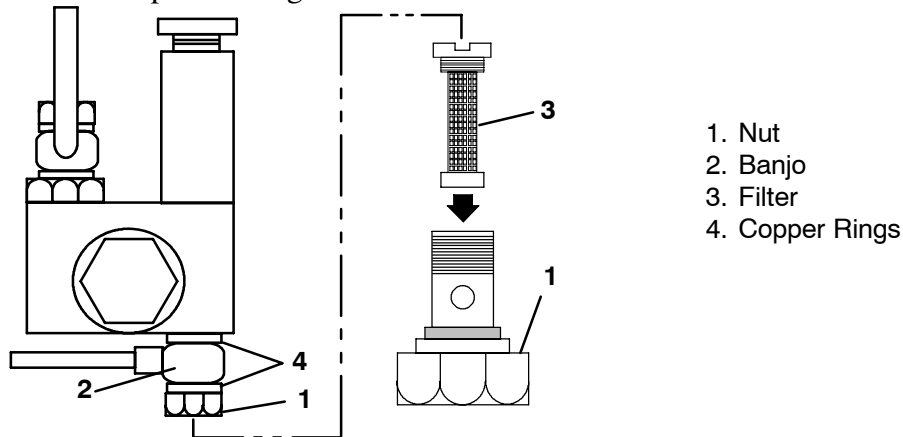

Figure 8-1. Mechanical Fuel Pump
a. Mechanical Pump (See Figure 8-1)
1. Turn nut counter-clockwise to loosen and remove (item 1, Figure 8-1).
2. Remove banjo fitting (item 2) and let it hang loose, making sure to keep copper rings (item 4) for replacement.
3. Turn filter (item 3) counter-clockwise and remove. Check and clean.